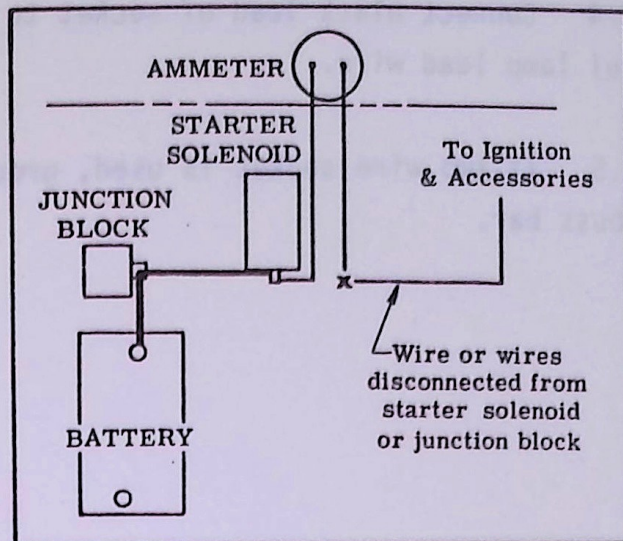

FIGURE 7-2
7.4.1 If vehicle has a junction block as in Figure 7-2, disconnect all wires except battery cable from battery terminal of this block (terminal which is connected to battery by a heavy cable).
7.4.2 If vehicle does not have a junction block (Figure 7-2) disconnect all wires except battery cable from battery terminal of starter solenoid (terminal which is connected to battery by a heavy cable).